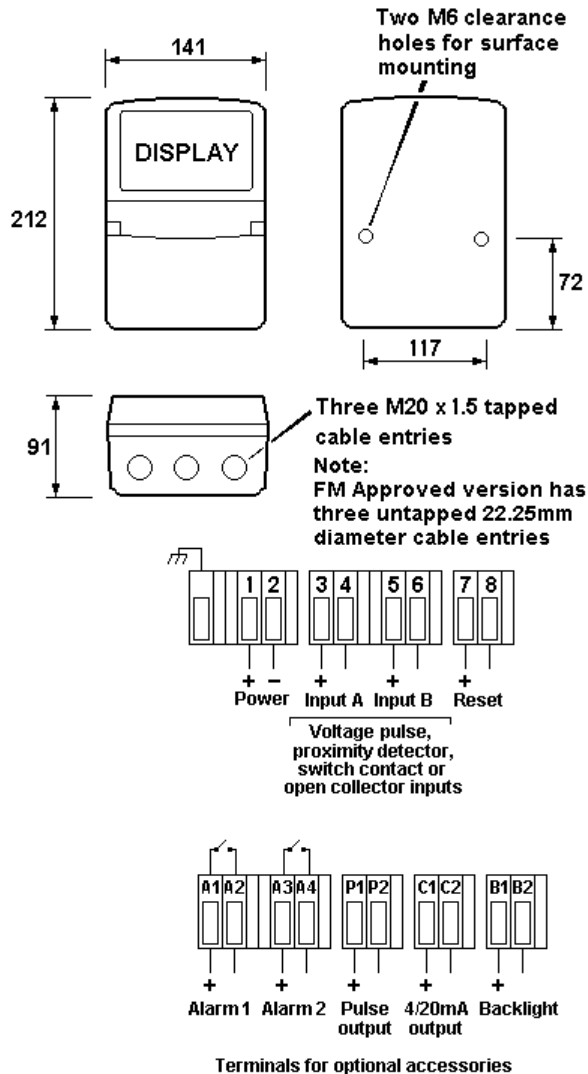

Fig 1.3 Dimensions and terminal connections
- Connect the field wiring to the terminals as shown in Fig 1.3.